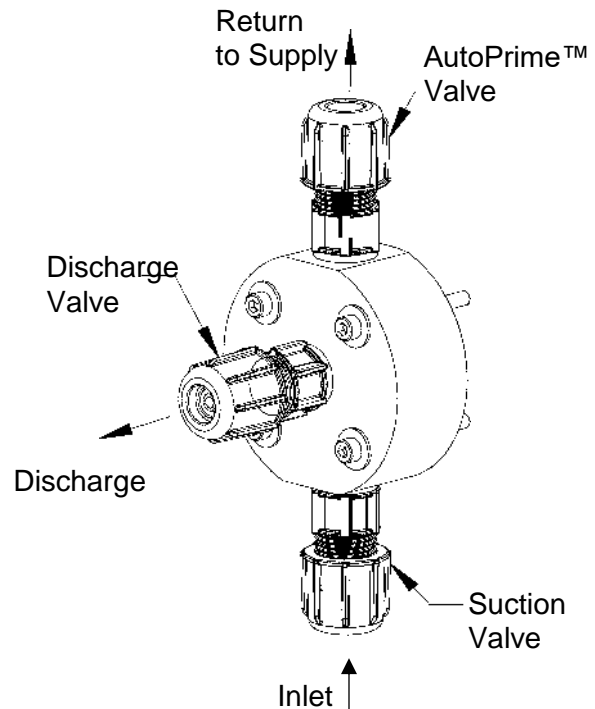

FIGURE 3
Please note: The chemical discharges through the discharge valve which is mounted to the front of the AUTOPRIME™ liquid end, as seen in Figure 3.
1. Connect pressure relief tubing to the pressure relief port (Figure 3). Route tubing to the solution tank. This tubing must not be submerged in the solution.